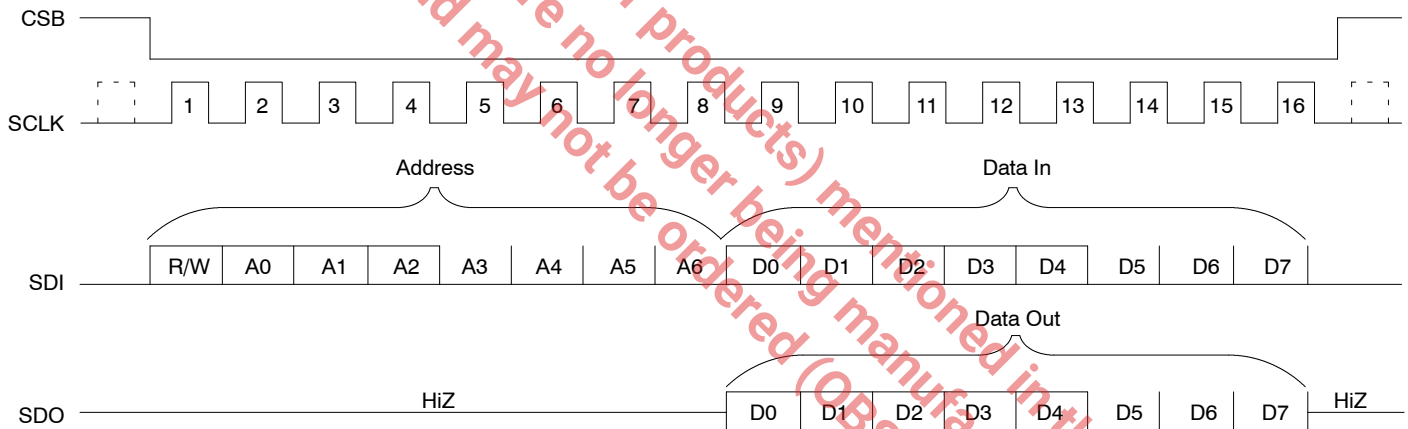

Figure 4. Serial Processor Interface Data Structure
The following instructions, for using the serial interface, are best understood by referring to the diagram in *Figure 4*.
Once the last address bit (A2) has been clocked into the SDI input, the read operation will proceed through an idle period, lasting four SCLK periods. On the falling edge of SCLK Cycle "8" (See Figure 4) the serial output signal (SDO) becomes active. At this point the user can begin reading the data contents of the addressed command register (at Address A2, A1, A0) via the SDO pin. The SDO pin will output this five bit data word (D0 through D4) in ascending order, with the LSB first, on the rising edges of the SCLK pin.
Once the last address bit (A2) has been clocked into the SDI input, the write operation will proceed through an idle period, lasting four SCLK periods. Prior to the rising edge of SCLK Cycle #9 (See Figure 4) the user must begin to apply the eight-bit data word, that he/she wishes to write to the serial input interface onto the SDI input pin. The microprocessor serial interface will catch the value on the SDI pin on the rising edge of the SCLK. The user must apply this word (D0 through D7), serially, in ascending order with the LSB first.
2. Each Read or Write operation, with the Serial Interface, will require 16 SCLK periods, as depicted in Figure 4.